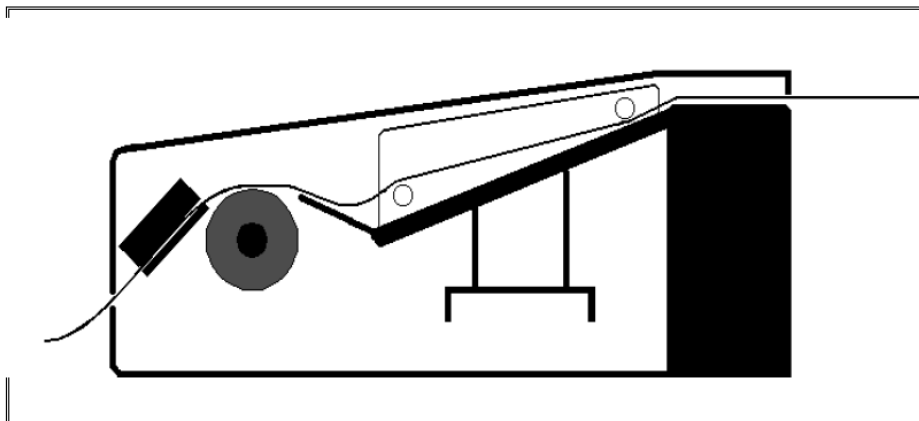

Figure 3-7. Fan-fold paper path
6. Guide the paper over the blue platten roller and under the black cutter bar as shown in Figures 3-7 and 3-8.